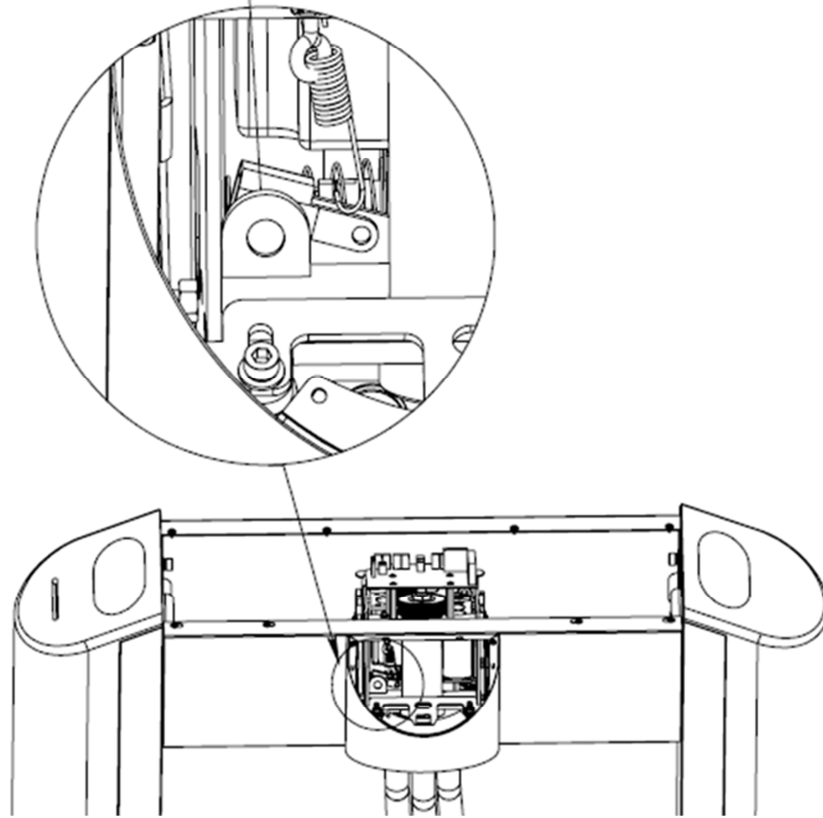
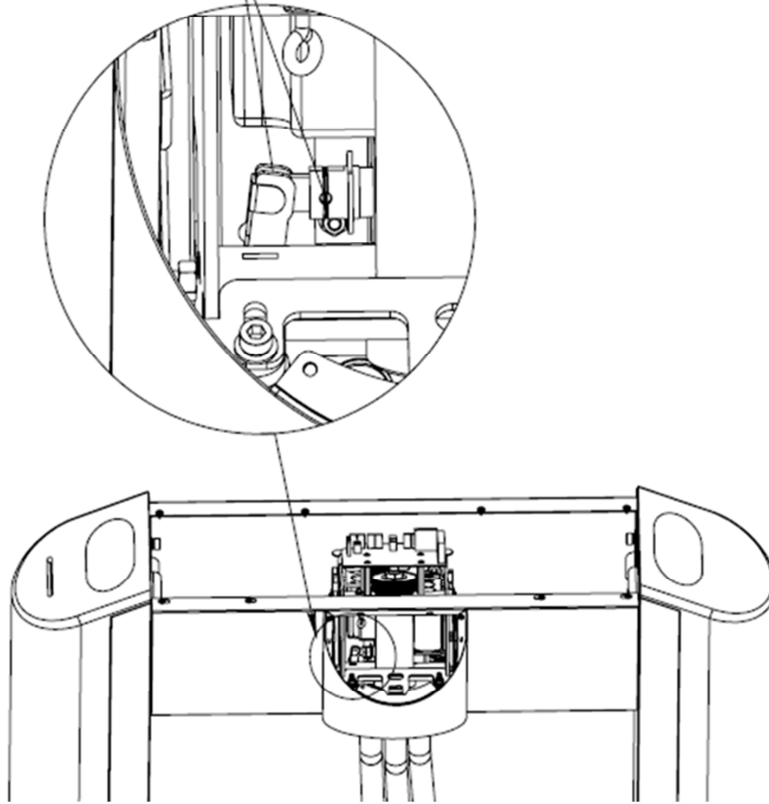

Fig. 10
Fig. 11
5.2. The rotation axis of the roller lever (Fig. 10).
5.3. Clips between the stopper unit and the solenoid (Fig. 11). Elements are located behind the roller lever shown on Fig. 10